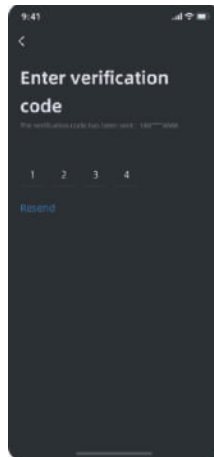

Figure 5
5)Figure 5: After entering the verification code, enter the password setting page.